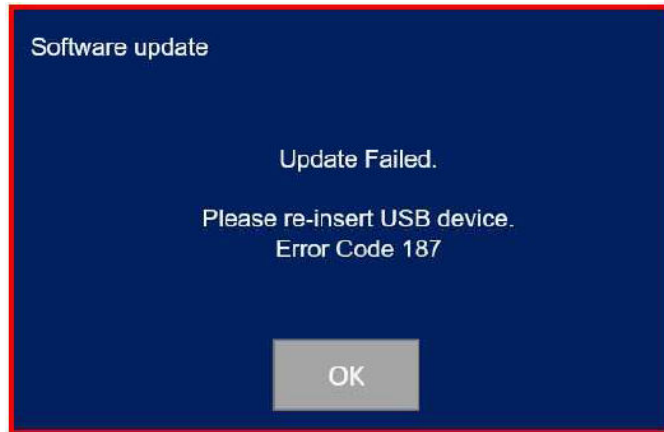

Fig. 6
9. If you see during reflash on the screen any error message like “Error code 187, 255 or 260” there is a reading problem with USB stick. Just reinsert USB. If it repeats use another USB stick Fig. 6.